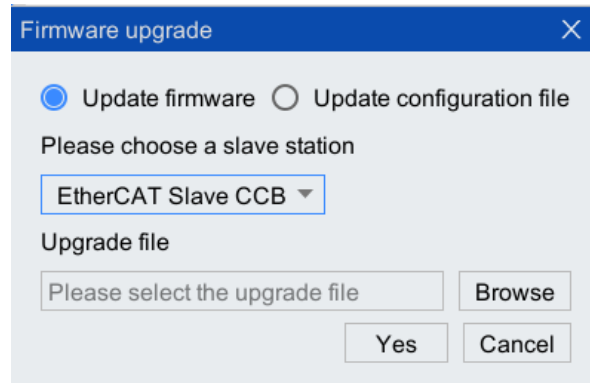
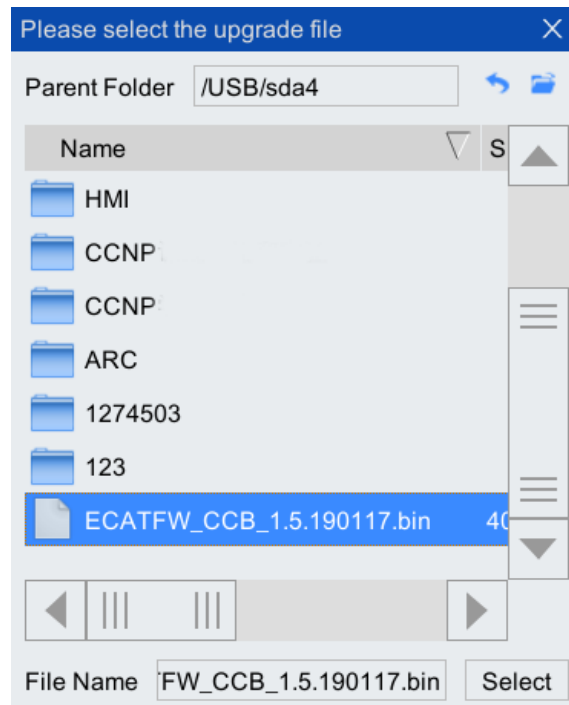

Figure 8-49 [Firmware Upgrade] interface
Figure 8-50 "Please select the upgrade file" dialog box
Step1.Select "System> System and Update> Firmware Update" option to pop up "Firmware Update" interface shown in Figure 8-49.
Step2.As shown in Figure 8-49, select "Upgrade File", select "DCB" as slave, and then click <Browse> button to pop up "Please select the upgrade file" dialog box, as shown in Figure 8-50. Find the path where the DCB firmware upgrade file is located, select the upgrade file, and click <Select> button.